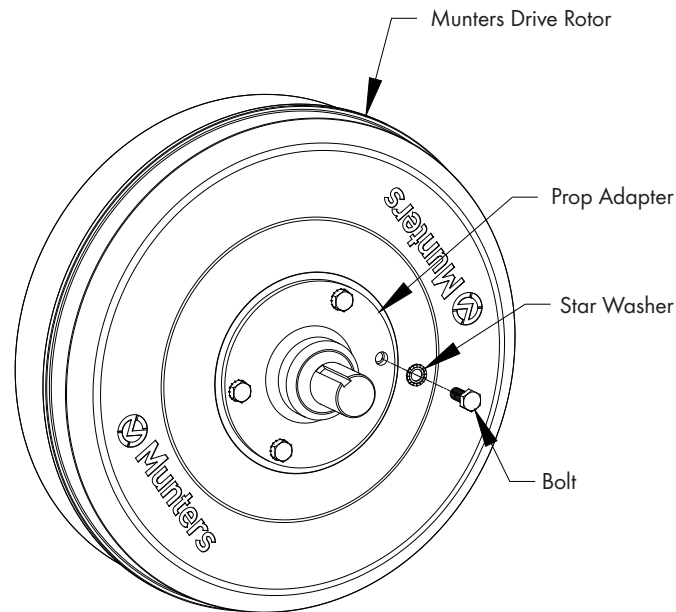

Figure 6
Remove the (4) Bolts and Star Washers holding the Prop Adapter to the Rotor. Save the Prop Adapter for reuse, but discard the existing bolts and washers. See Figure 6.